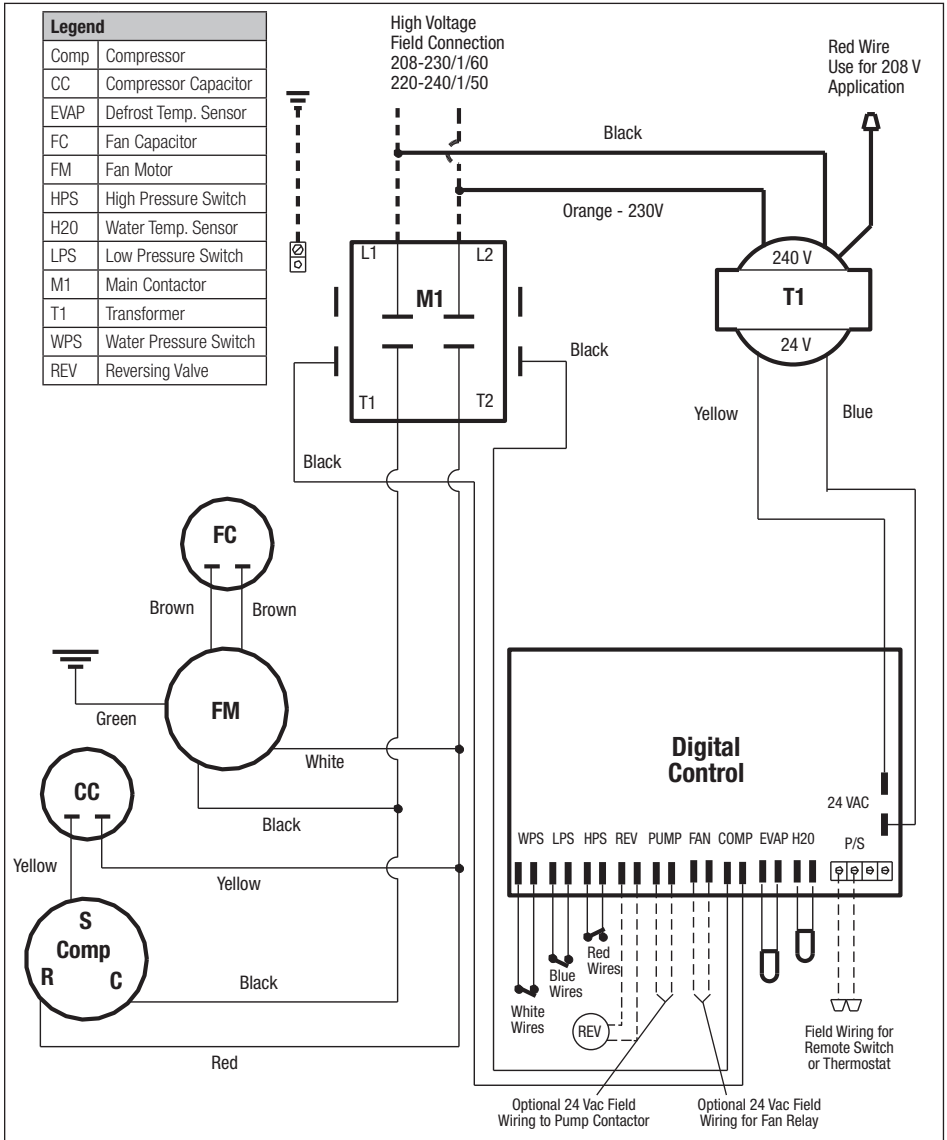

Figure 5. Sunblazer Heat/Cool Heat Pump Wiring Diagram
8. Connect the wires to the terminals on the main contactor as shown in the wiring diagram. See Figure 5.